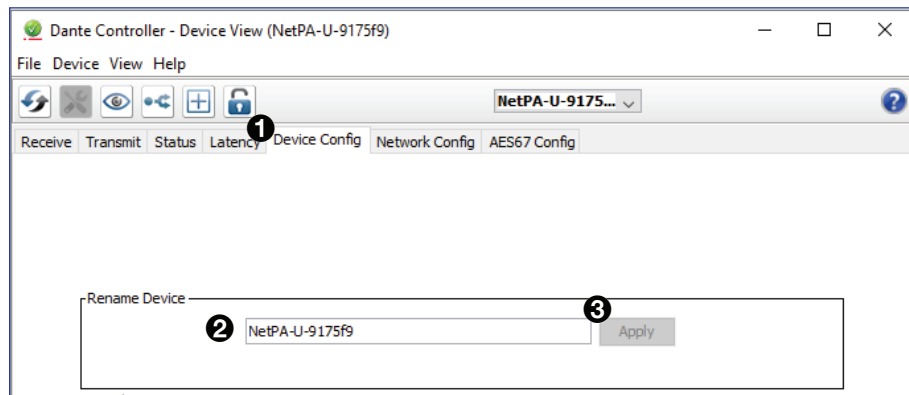

Figure 84. Device Config Dialog, Rename Device
6. Click the **Device Config** tab (see figure 84, ❶) to open the **Device Config** page.
7. In the **Rename Device** panel, enter the new name of the device in the text field. No spaces are allowed in the name. Names should be significant identifiers. For example, enter **NetPAUAmplifier-MainRack** (❷).
8. Click **Apply** (❸).